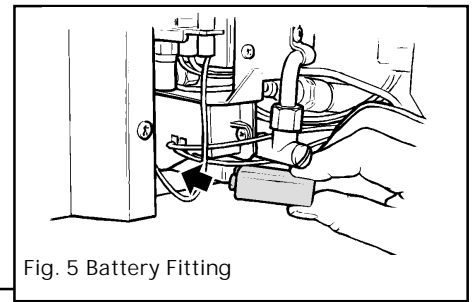

Fig. 5 Battery Fitting
**3.1.1** Fit the battery to the ignition block located below the burner tray at the left side (see figure 5). The positive terminal (+) is to the right as you insert.